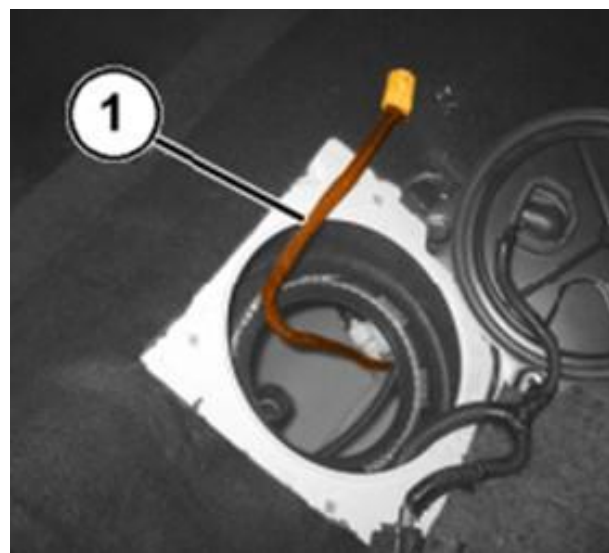

Figure 15 – Level Sensor Wiring
7. Be sure that the level sensor wiring is outside the tank (1) (Figure 15).